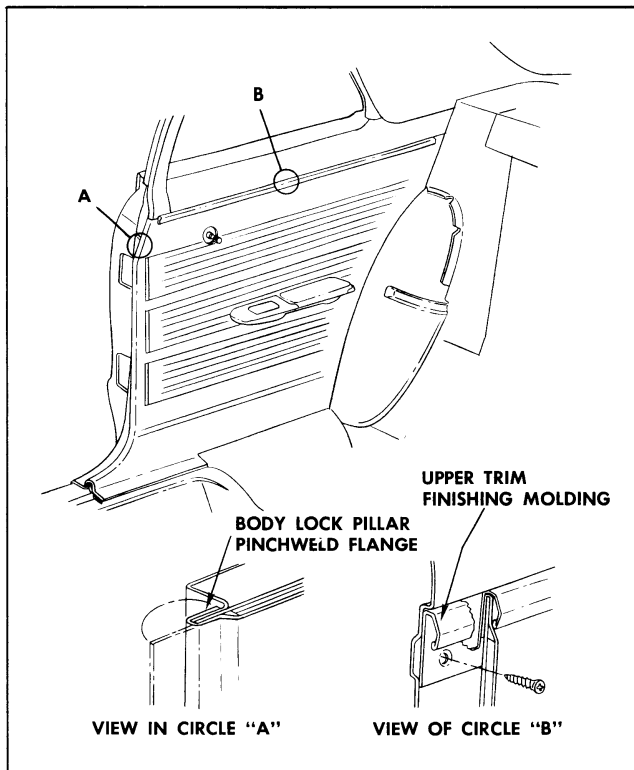

Fig. 13-3 Rear Quarter Trim
4. Beginning at rear, carefully pull upper edge of trim downward to disengage it from upper finishing molding (View B, Fig. 13-3).
6. To install, reverse removal procedure. Prior to installation of pinchweld finishing strip, cement foward overlapping edge of trim to pinchweld flange outboard surface (Fig. 13-3).
3. Pull trim downward to disengage from trim upper finishing molding similar to B, Fig. 13-3.
5. To install, reverse removal procedure. Prior to installation of pinchweld finishing strip, cement forward overlapping edge of trim to pinchweld flange outboard surface similar to A, Fig. 13-3.